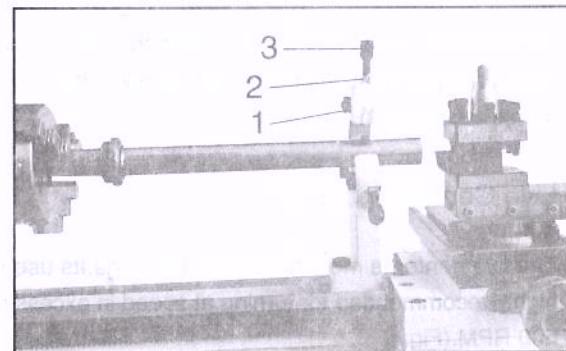

Fig.3
1. Loosen the three laterally located hexagonal nuts (1) (Fig.3)
2. Unscrew the knurled screw (3) and open the sliding fingers (2) by hand sufficiently wide until the steady rest can be moved with its fingers around the workpiece. Secure the steady rest in its position.